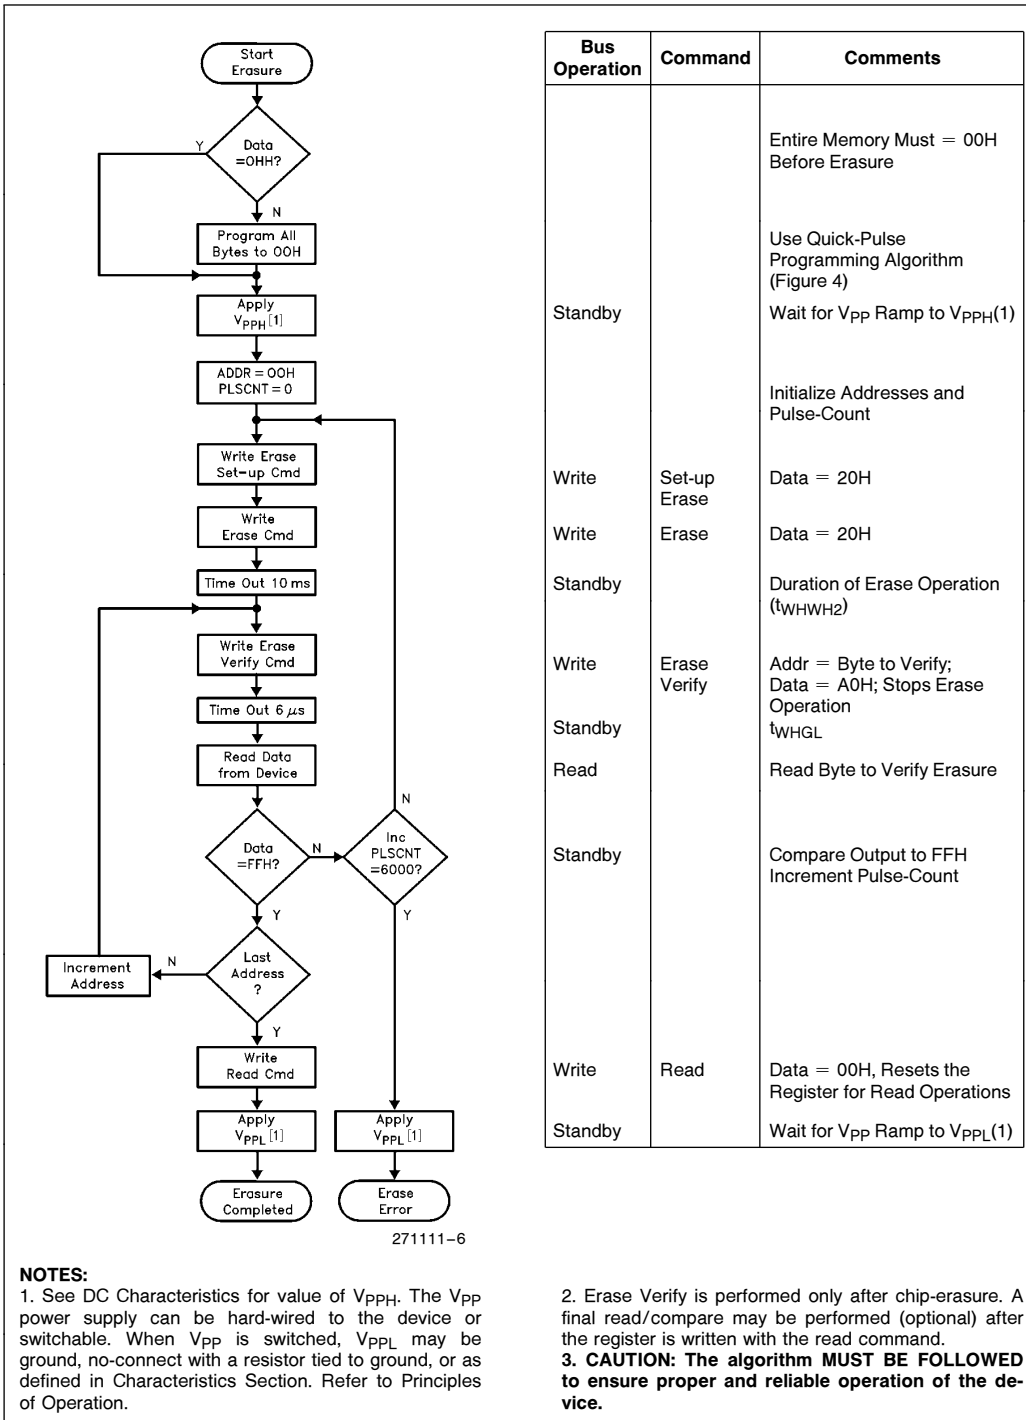

Figure 5. M28F010 Quick-Erase Algorithm
- Figure 5 illustrates the Quick-Erase Algorithm.
In the case where the data read is not FFH, another erase operation is performed. (Refer to Set-up Erase/Erase). Verification then resumes from the address of the last-verified byte. Once all bytes in the array have been verified, the erase step is complete. The device can be programmed. At this point, the verify operation is terminated by writing a valid command (e.g. Program Set-up) to the command register. Figure 5, the Quick-Erase algorithm, illustrates how commands and bus operations are combined to perform electrical erasure of the M28F010. Refer to AC Erase Characteristics and Waveforms for specific timing parameters.
Erase execution then continues with an initial erase operation. Erase verification (data = FFH) begins at address 0000H and continues through the array to the last address, or until data other than FFH is encountered. With each erase operation, an increasing number of bytes verify to the erased state. Erase efficiency may be improved by storing the address of the last byte verified in a register. Following the next erase operation, verification starts at that stored address location. Erasure typically occurs in one second. Figure 5 illustrates the Quick-Erase algorithm.